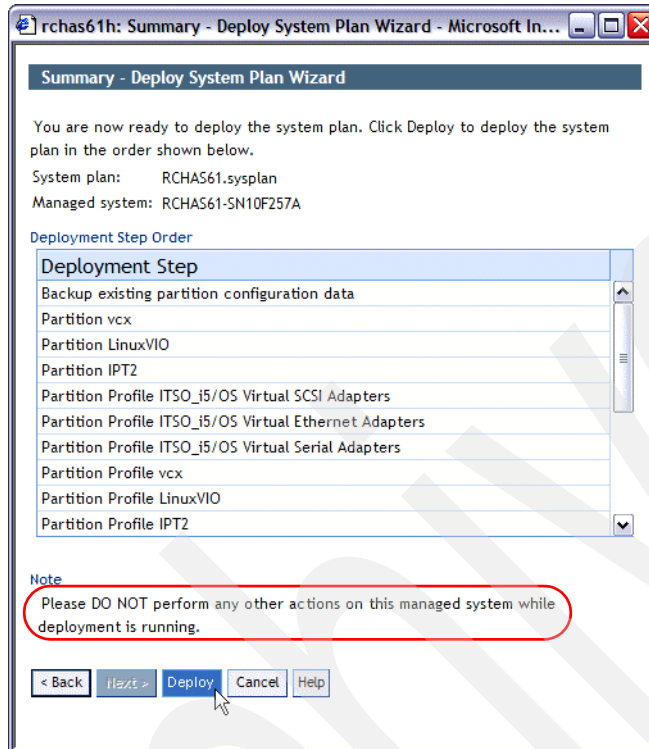

Figure 3-31 Ready to deploy
5. The next panel, Figure 3-31, is the last panel before running the deployment. There is a summary of all the steps that the HMC will perform. Click **Deploy** to start the operations. Notice the warning just above the buttons at the bottom of the window.